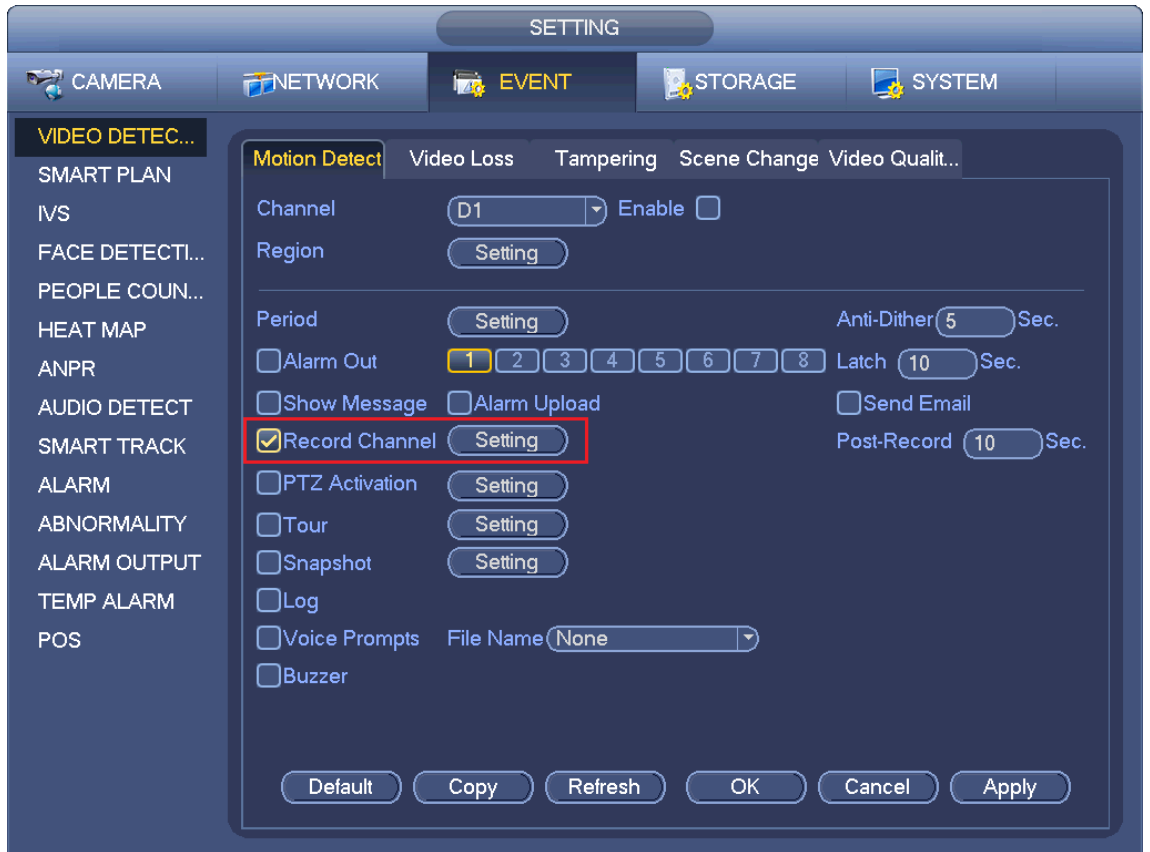

Figure 3-29
- When the record type is MD (motion detect), alarm, MD&Alarm, IVS and POS, please enable the channel record function when corresponding alarm occurs. For example, when the alarm type is MD, from main menu>Setting>Event>Video Detect>Motion Detect, please select the record channel and enable record function. See Figure 3-29.